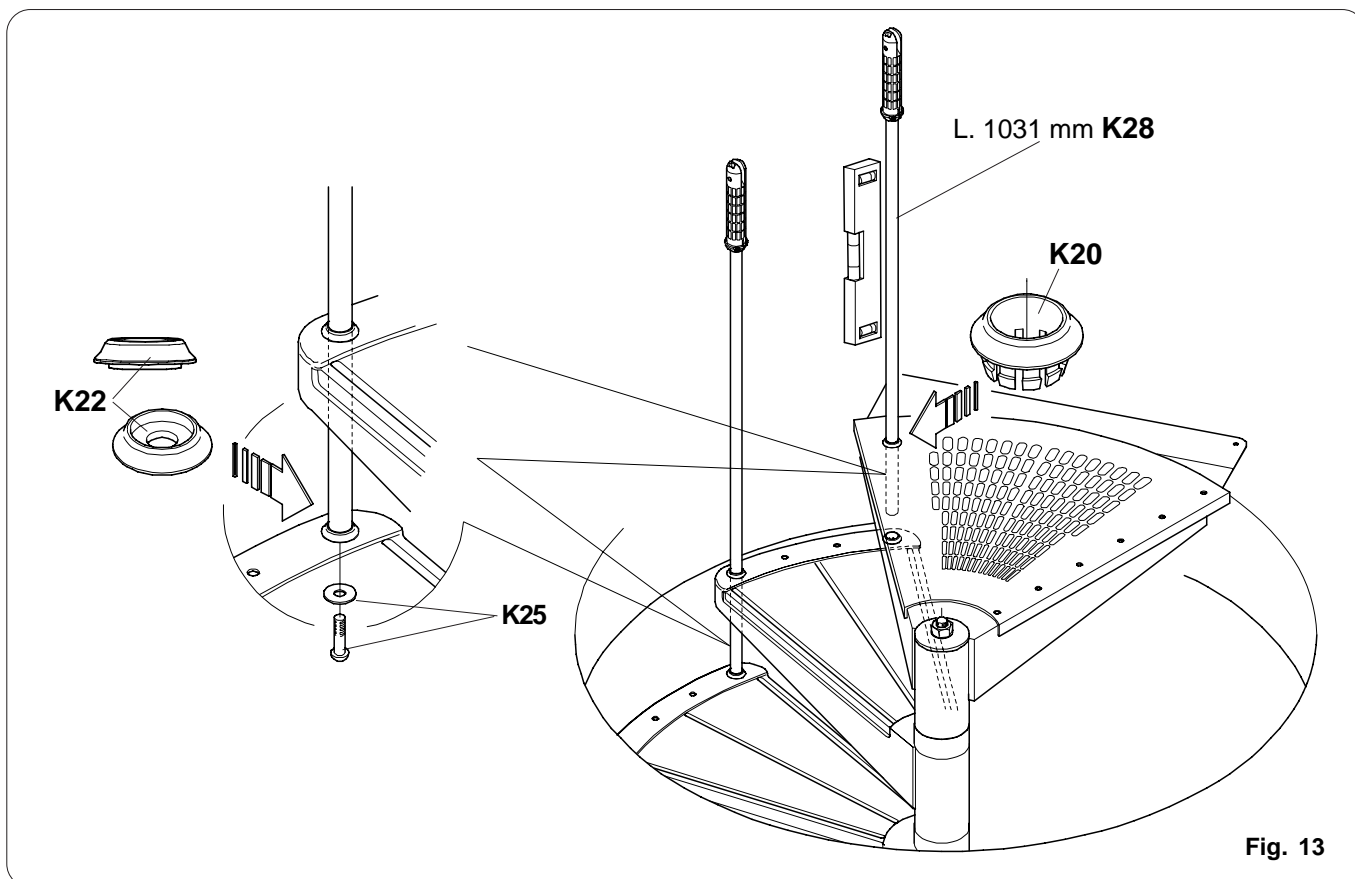

Fig. 13
- Starting from the final step, assemble the columns prepared previously as shown in fig. 13.